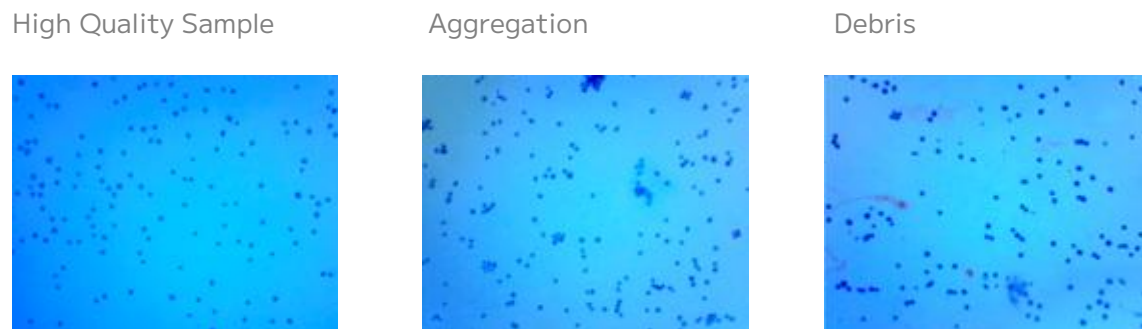

Figure 4: Standard Fixation: example of trypan blue stained fixed cells.
- Examples of stained fixed cells are shown below. High quality fixed samples have single distinct cells with <5% aggregation and no debris. Higher levels of aggregation will lead to elevated doublets after sequencing and may indicate a poor quality cell isolation. When quantifying fixed cells, it is critical to avoid counting debris to avoid overestimating the number of cells (Figure 4).